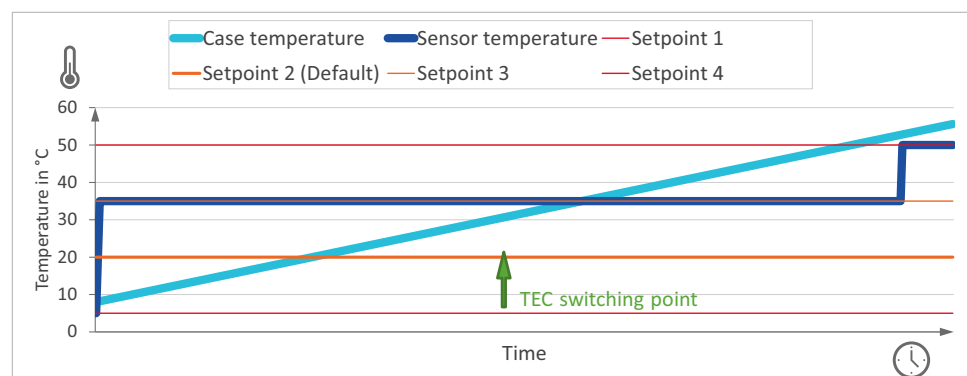

Figure 102: Schematic figure of TEC heating and cooling
During operation, as long as the TEC does not actively cool the sensor, the sensor temperature usually is higher than the housing temperature. So, even if the sensor temperature is below the current temperature setpoint, the TEC might still be required to cool the sensor. The green arrow in Figure 102 shows this situation. Note for better understanding the housing temperature profile is shown in a simplified way that covers the whole temperature range.
- Set to *Auto*, the TEC is able to switch to a higher setpoint, if it exists, as shown in Figure 102.